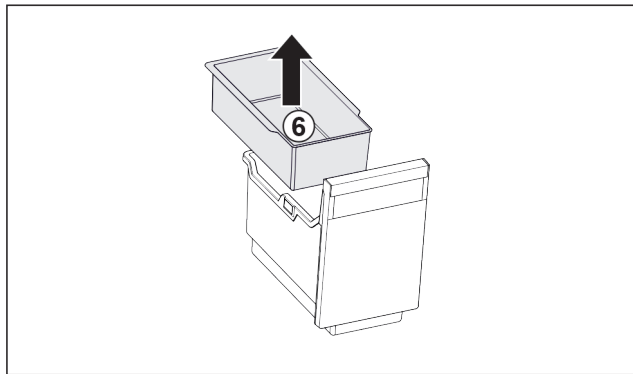

Fig. 100
- ▶ Izvadite ovesnu posudu Fig. 100 (6).